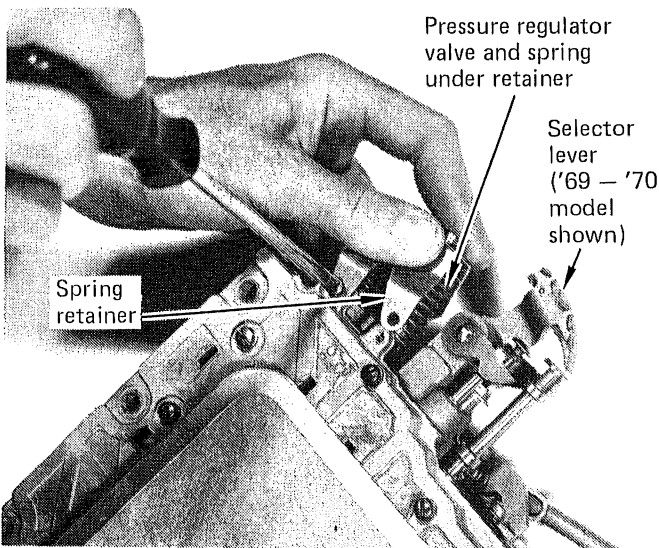
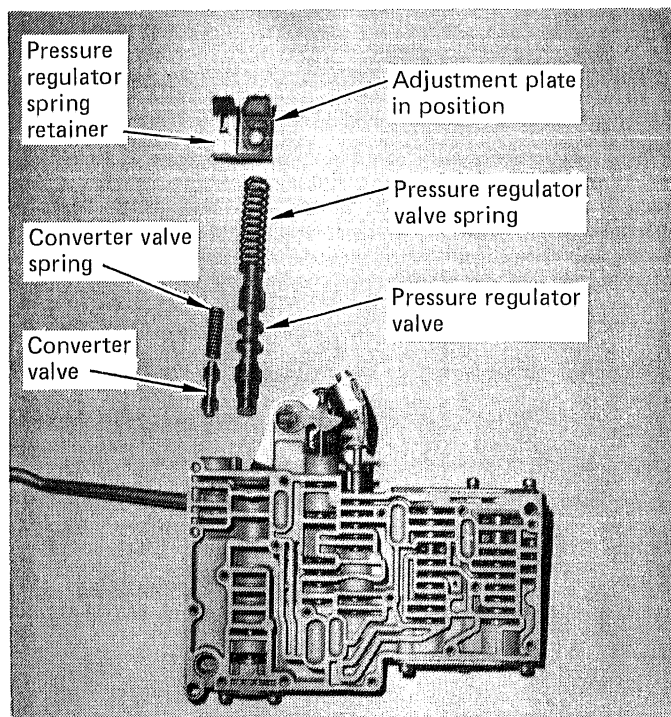

FIGURE 4
FIGURE 8
Now remove the pressure regulator spring retainer located next to the selector lever. (See Fig. 4) Remove three short screws to remove retainer.
CAUTION: Hold your hand against the retainer while removing the screw (See Fig. 4) so the large pressure regulator spring does not fly out. Remove the retainer and adjustment plate, pressure regulator spring and converter valve spring and set them aside. Remove the regulator valve and converter valve and lay them next to their respective springs.
STEP 10. Install pressure regulator valve into its bore. (See Fig. 8) Install converter valve into its bore. Both valves should move freely and easily. Remove any burrs that may cause stickiness or binding. Set casting aside.
Align transfer plate assembly over casting and hold the two halves together with your hand. Install fourteen screws in place finger tight. (Note: Three long screws are for the filter.) Install pressure regulator spring and converter valve spring in place. (See Fig. 8) Insert pressure regulator adjusting plate into place in retaining cage. Adjusting plate is a close fit when properly installed inside the retainer. Engage pressure regulator spring with adjusting plate and engage converter valve spring with prong in retainer. Hold retainer against valve body, align screw holes and install three short screws finger tight. (See Fig. 4)